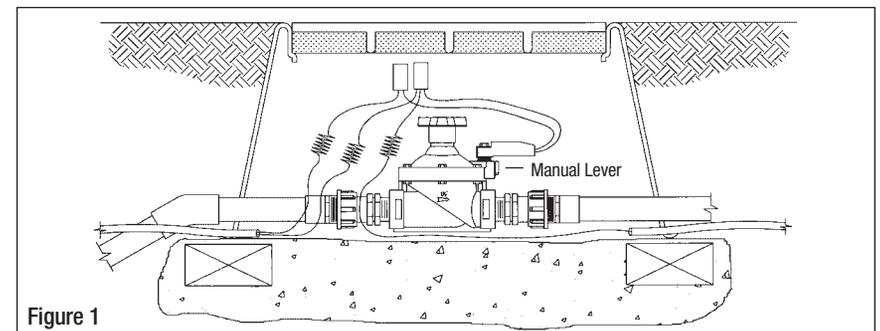

Figure 1
Recommended version is option A, a complete valve assembly including LEMA solenoid actuator with plastic in-line valve (globe), sizes from 3/4" to 2", see Figure 1.
- 5.2 Install series 150S-xxx valves with the solenoid actuator according to the valve standard installation specification (See figure 1 and for more detail, see page 12).
- 5.3 Splice the solenoid actuator wires and connect the incoming direct burial color code wire to the red wire from the solenoid actuator using dry-splice waterproof connector. Loop the incoming white common wire to the white wire from the solenoid actuator using conventional dry-splice waterproof wire connectors. Leave the wires slightly loose on each side so that repairs, if needed, can be carried out easily. See Figure 1 on page 3 and detail on page 10.